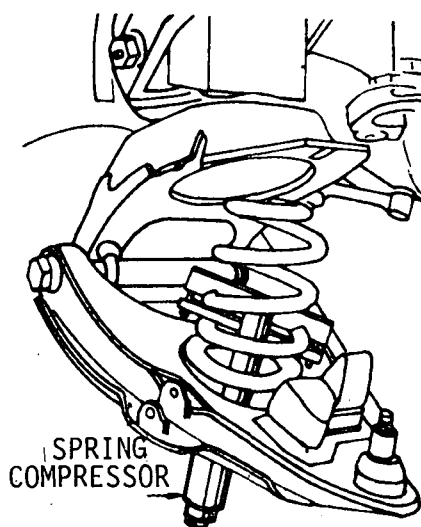

Fig. 3
- b) Install the spring compressor (fig. 3).